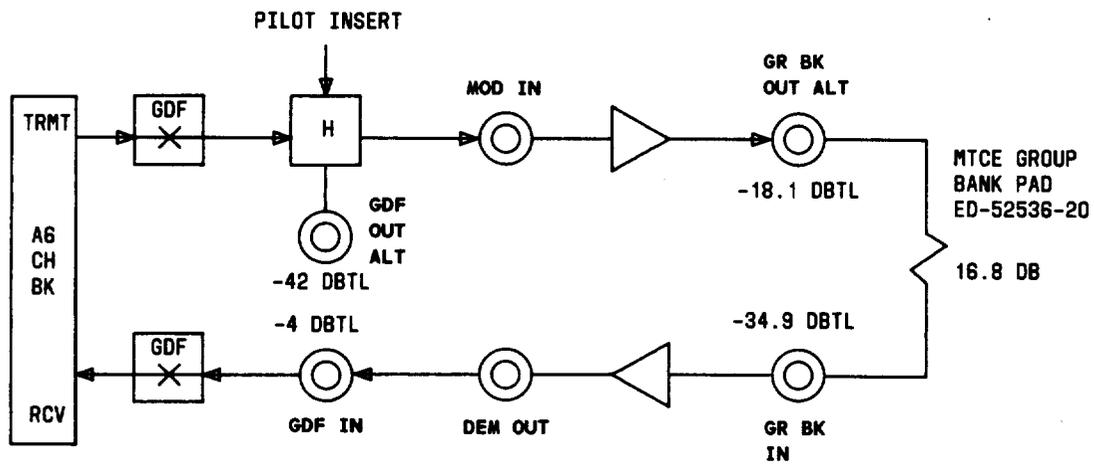

Fig. 7—Typical Channel Bank Equal-Level Looping Arrangement—LMX-3
4	At LMX-3 equipment, make looping connections as shown in Fig. 7.
- 4 At LMX-3 equipment, make looping connections as shown in Fig. 7.